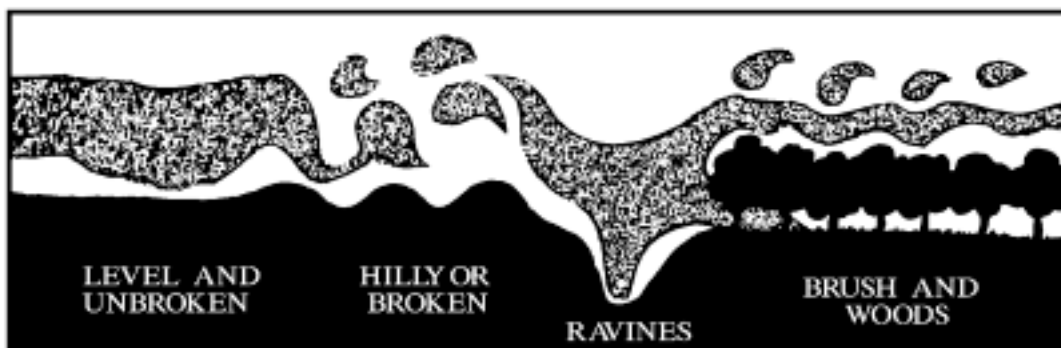

Fig 1-7. Agents flowing around obstacles.
- Remember, most agents are heavier than air and follow terrain features. This also means that they can flow into and around obstacles such as buildings, trees, and your vehicle! Uneven terrain only disperses the contaminant; it does not eliminate the chemical threat to you and your team (fig 1-7).